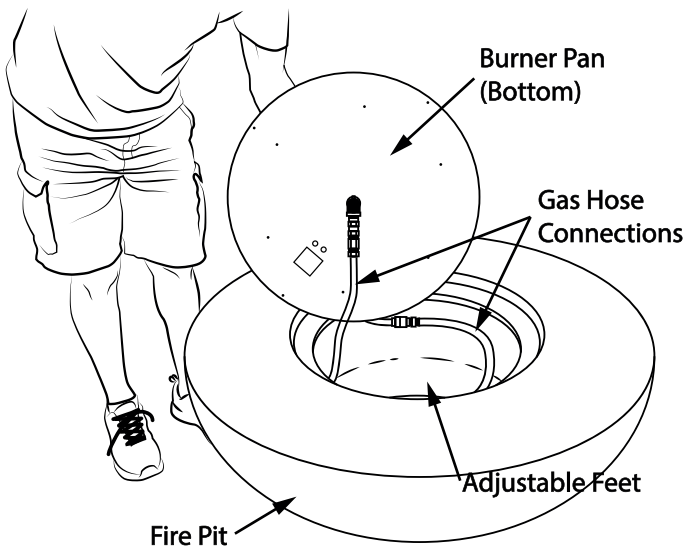

FIG. 5-1
1. Lift the **burner pan** away from the lip it rests on (FIG. 5-1).